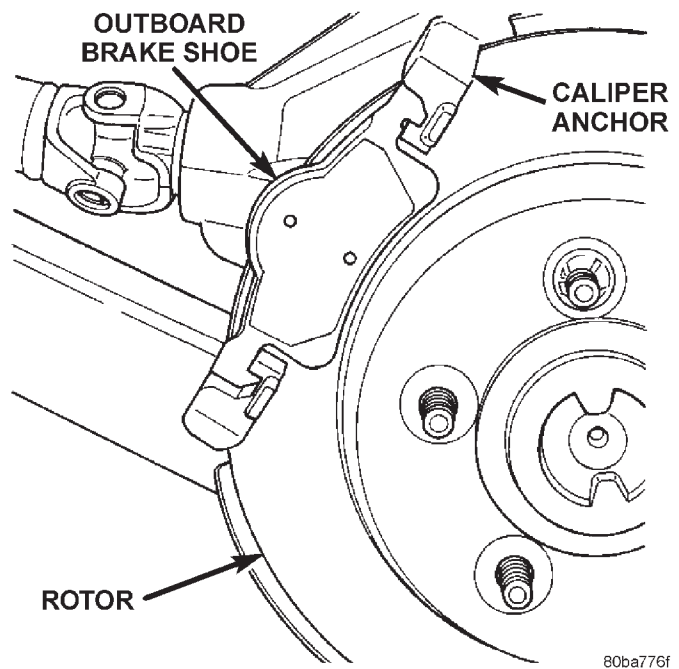

Fig. 41 Outboard Brake Shoe
- (10) Remove outboard brake shoe (Fig. 41) from the caliper anchor.
- (2) Install the outboard brake shoe onto the caliper anchor (Fig. 41).
- (3) Lubricate the slide pins and slide pin bushings with Dow Corning® grease G807 or the grease provided with the brake shoes.
- (4) Install caliper on the anchor.